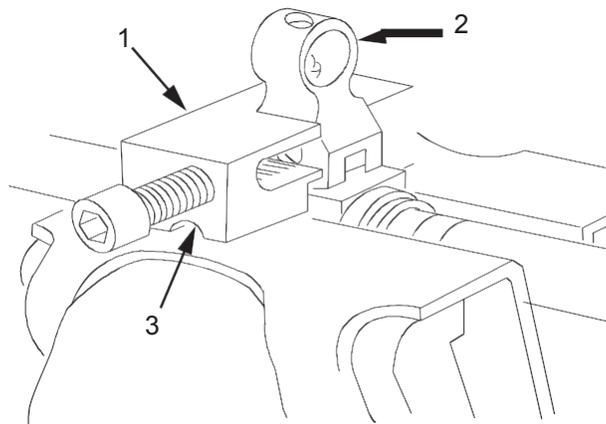

Figure 16. Assembly of Front Sight Base.
3. Position the front sight assembly tool (Figure 16, Item 1) over the front sight base (Figure 16, Item 2) and gas block pin (Figure 16, Item 3).